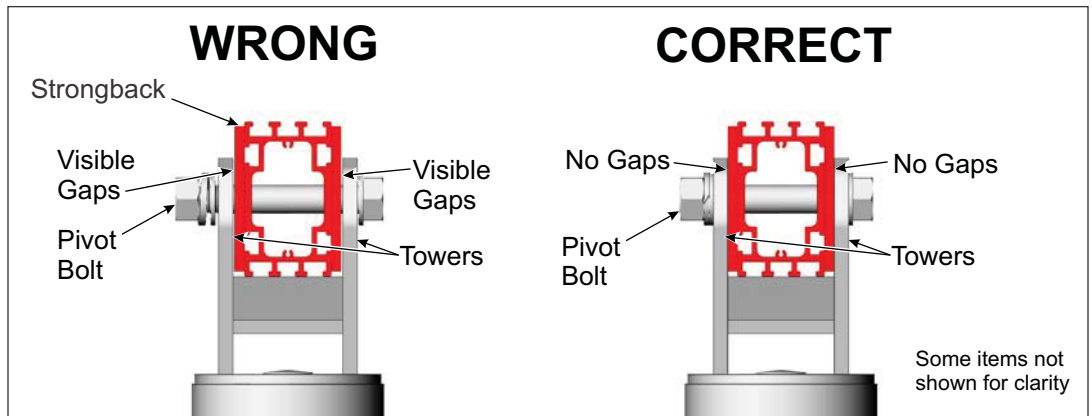

Figure 4-4: Tighten and Torque the Pivot Bolt
H. Return and tighten the Pivot Bolt. The Pivot Bolt cannot be left loose - the Mounting Sleeve Vertical Towers must be firmly clamped to the sides of the Strongback eliminating any gaps between the Vertical Towers and the Strongback. **Torque to 125-150 ft.-lbs.** (See Figure 4-4)